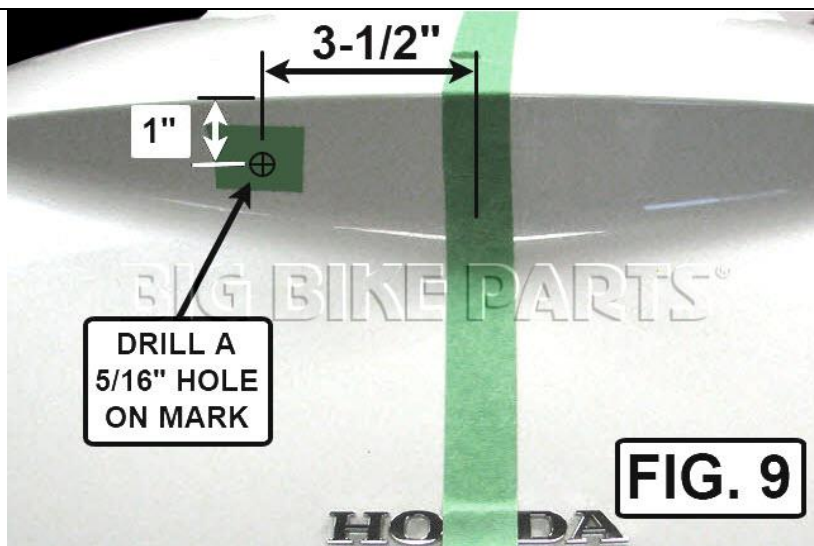

FIG. 9
14. PLACE MASKING TAPE AND MARK THE HOLE TO BE DRILLED ACCORDING TO **FIG. 9**.